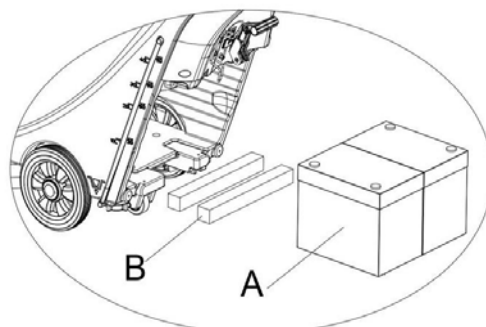

Figure 6
1. For battery with length below 270mm, use 2 pieces of the fixation board (B, Figure 6) and place them side by side inside the water tank battery;
2. For battery with length between 310mm-270mm, use 1 piece of the fixation board (B, Figure 6) and place it in the water tank battery;